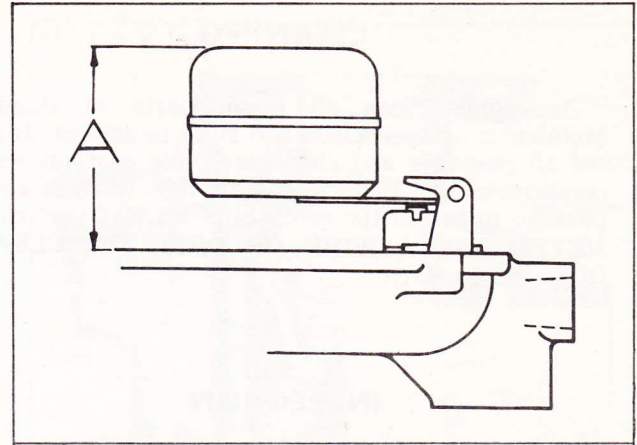

Fig. 8. Float Setting
11. To insure correct fuel level in the float chamber, check distance "A" from top of floats to machined surface of throttle body (no gasket) with throttle body inverted, see Figure 8. This dimension should be 1 and 5-32" plus or minus 1-32". To increase or decrease distance from top of float bodies to machined surface, use long nose pliers and bend lever close to float body.